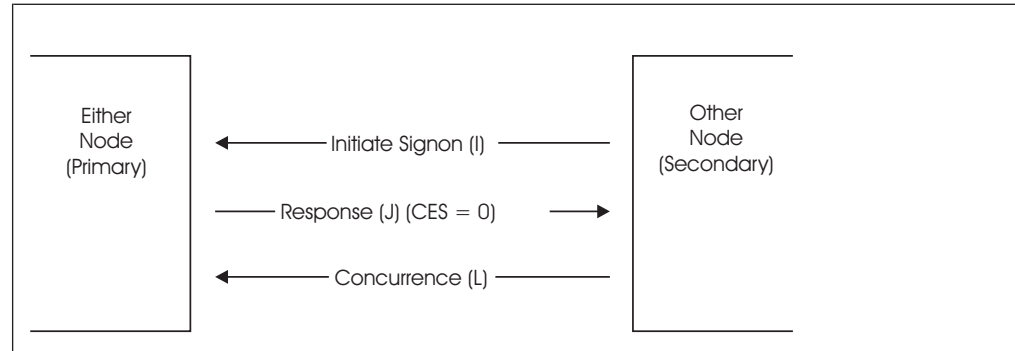

Figure 31. Secondary Trunk Connection
A secondary trunk is a line directly connecting two systems already directly connected when the secondary connection is made and the new line resistance is not less than the original. Because this does not represent a new connection, no CES is assigned and no distinction is made between low end and high end. In this case, the multi-trunk flag must be set on in the response (J) record. If the new line resistance is less than the original, this becomes the primary trunk with the CES not equal to zero. Figure 31 illustrates secondary full trunk connection protocol.